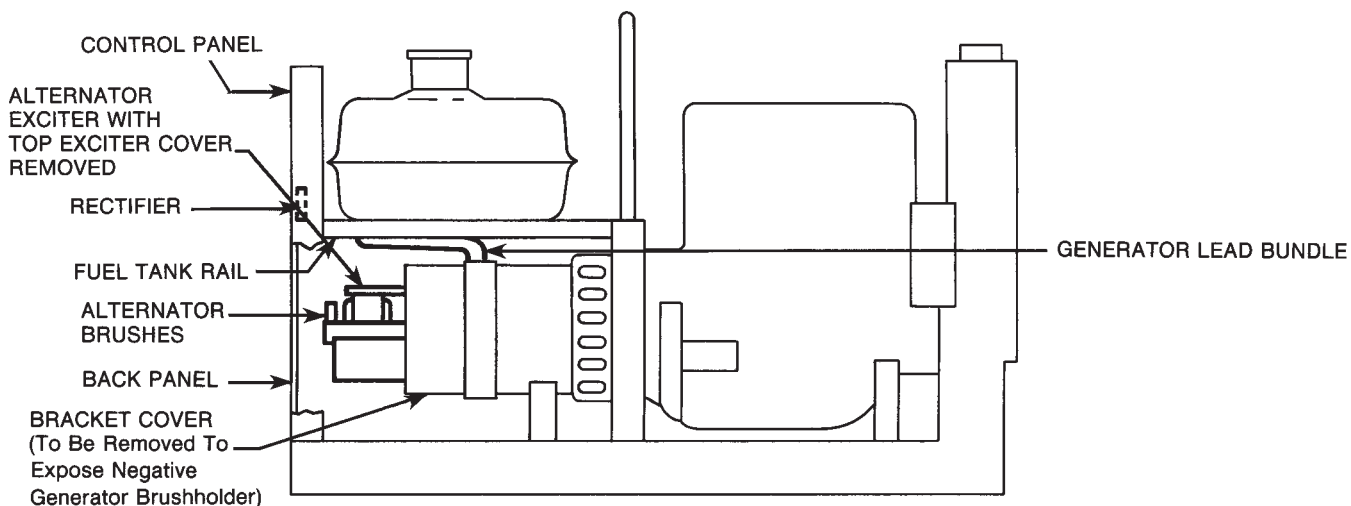

FIGURE 4 – SA-250 with Roof Assembly Removed.
1. Remove roof assembly, back panel, top exciter cover and bracket cover. See Figure 4.
4. Remove existing brown field lead from the black lead on the positive rectifier terminal and connect the brown field lead to CV Adapter lead 509 using the existing push-on terminal. Tape up connection and unused ring terminal. Rectifier located on back of control panel. See Figure 4.
NOTE: FOR STEPS 9 THROUGH 12, REFER TO FIGURES 4 AND 7.
9. The negative generator brushholder, exposed when bracket cover (see Figure 4) is removed, is at the 11 o'clock position when the commutator is viewed from the control panel end of welder. Remove the 5/16 bolt which connects the two existing cables to the negative brushholder. Obtain the thermostat assembly marked "250" and reconnect the two cables to the negative brushholder with *one end of the thermostat assembly bolts between the cable lugs and the brushholder*.